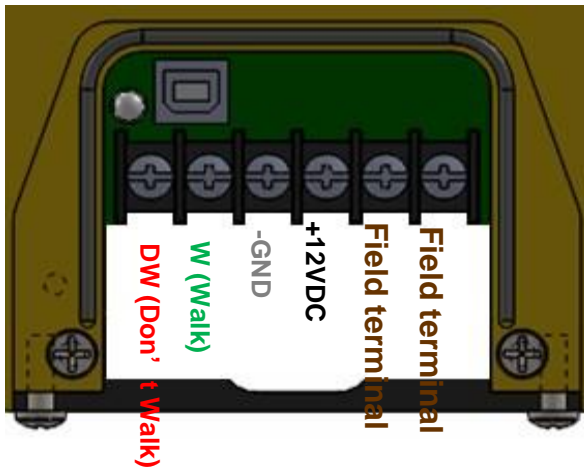

Figure 1
4. Connect the four wires to the terminal block connections as shown in Figure 1.
5. If there are pedestrian field terminal wires present at the station connect them to the terminal block in the positions shown in Figure 1.